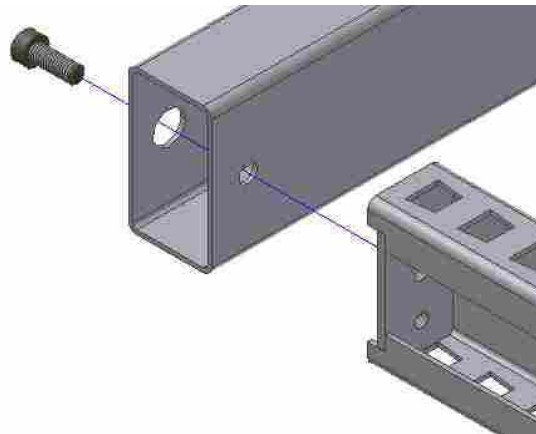

Fig 5
STEP 4 - Screw the **top bar** to the **grooved bars** with 1 **M8x20 DIN 912 Allen screw + M8 Grover washer** for each **bar** (Fig. 5).